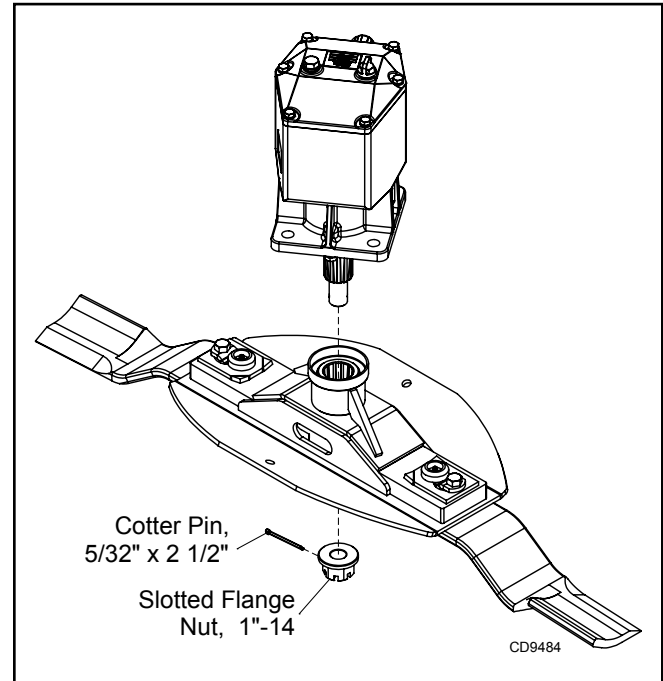

Figure 15. Crossbar Assembly Installation
3. Refer to Figure 15. Remove cotter pin from bottom of crossbar and remove nut and washer.